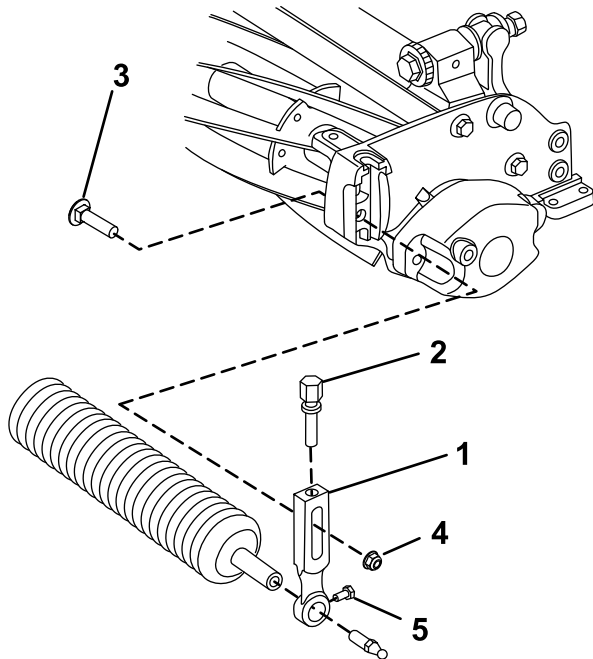

Figure 3
1. Remove the plow bolt, washer, and flange locknut securing one of the height-of-cut arms to the cutting unit side plate (Figure 3).